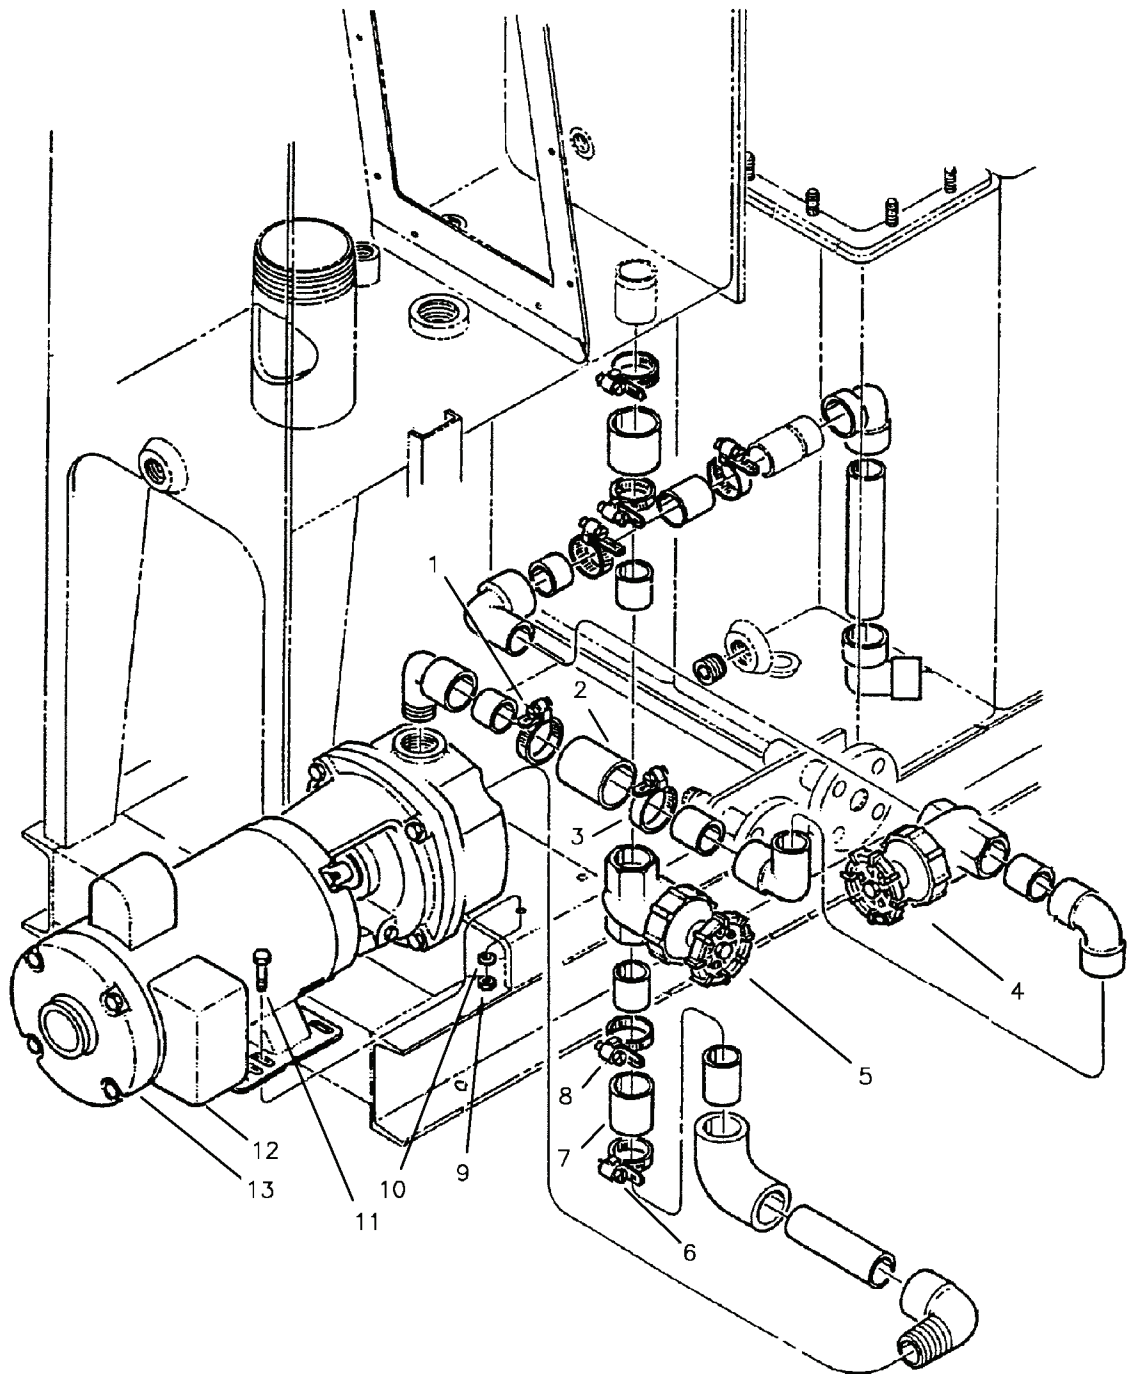

Figure 2-21. Flow Pump Connections.
See Figure 2-21 and proceed as follows:
- a. Install pump assembly (13, Figure 2-21) using screws (11), washers (9) and nuts (10).
- b. Connect applicable wiring in connection box (12) (Paragraph 2-14, Replacement steps a.6 through a.8).